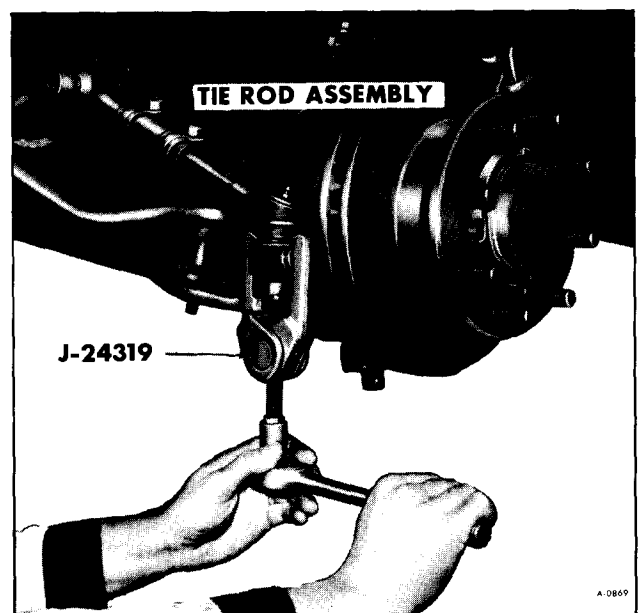

Figure 4—Removing Tie-Rod End
5. Using Tool J-24319 as shown in Figure 4, remove tie rod end from spindle.